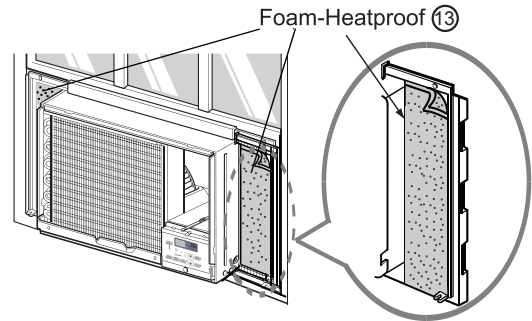

Fig.10
13. Cut the adhesive-backed Foam-Heatproofs to the Guide Panel size. Remove the backing from the Foam-Heatproofs and attach the Foam-Heatproofs to Guide Panel. (Fig.10)